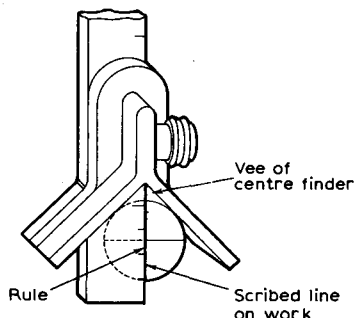

Fig. 4.191
**Methods of centring.** Three methods are commonly used: (1) Centre finder method, Fig. 4.191. The vee of the centre finder is held against the end face and a line is scribed on the work. The work is then rotated about 90° and a second line is scribed. The intersection of these lines is the centre of the work.